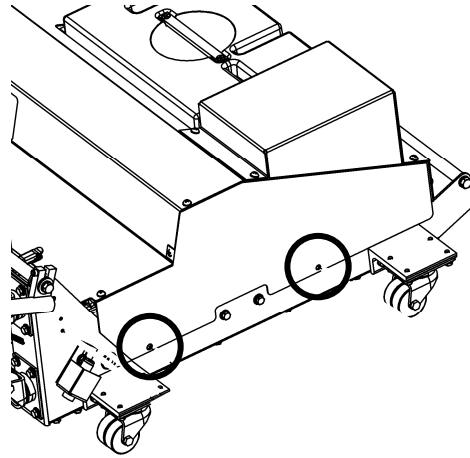

Figure 3-17
1. Remove the two screws, shown in Figure 3-17, from both sides of the hood and lift the hood from the frame. Set aside the screws.